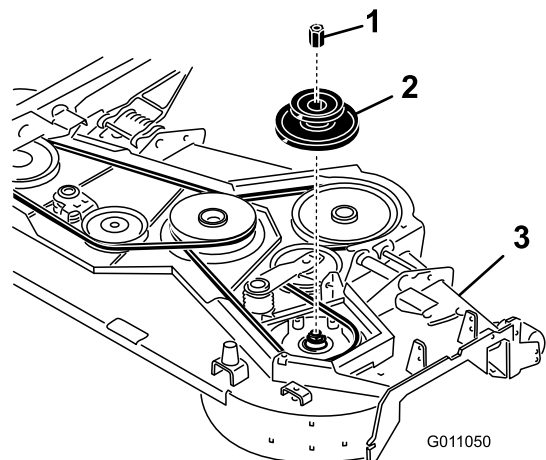

Figure 3
4. Place a block under the right blade spindle under the mower deck before removing the right mower deck pulley (Figure 3). This will prevent the spindle components dropping down when the pulley nut is removed.
5. Remove the existing pulley nut and remove the pulley (Figure 3). Save the pulley and nut for later use.
6. Install the new double pulley onto the spindle and secure it with the new pulley nut (Figure 3). Torque the nut to 130-150 ft-lb (176-203 N-m).